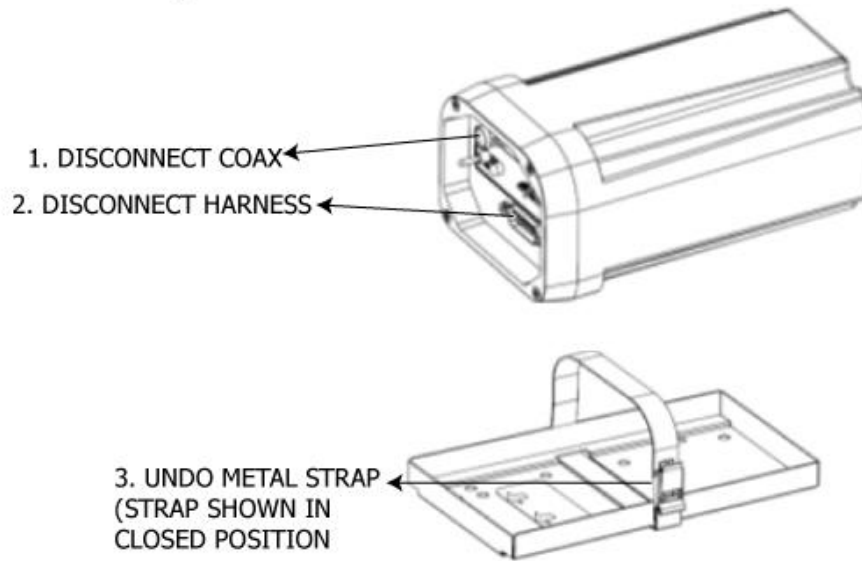

Figure 9 ELT Removal Sequence
- 1) See Figure 9 ELT Removal Sequence.